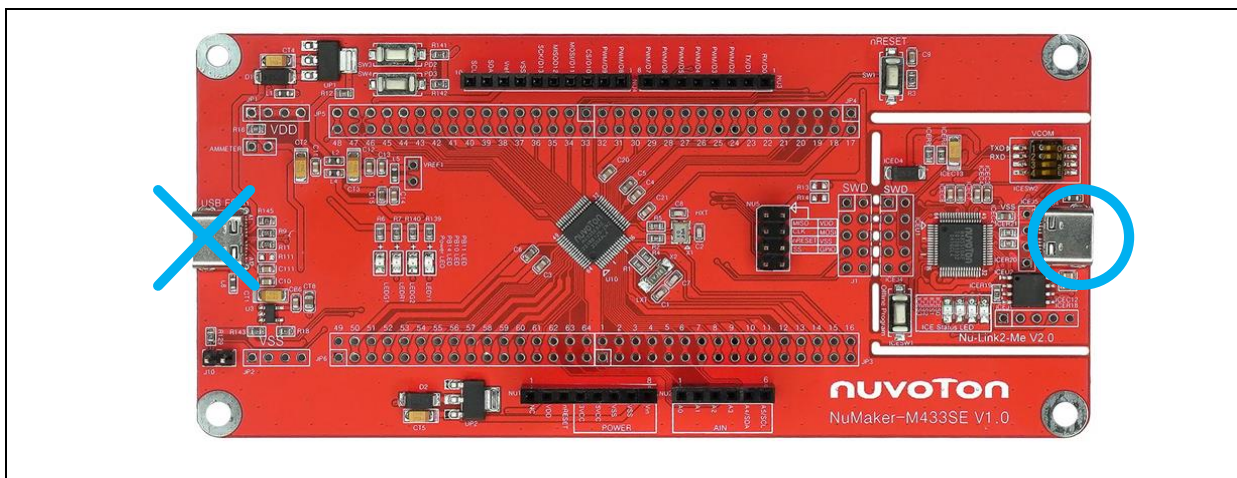

Figure 3-4 ICE USB Connector
2. Connect the ICE USB connector shown in Figure 3-4 to the PC USB port through USB cable.